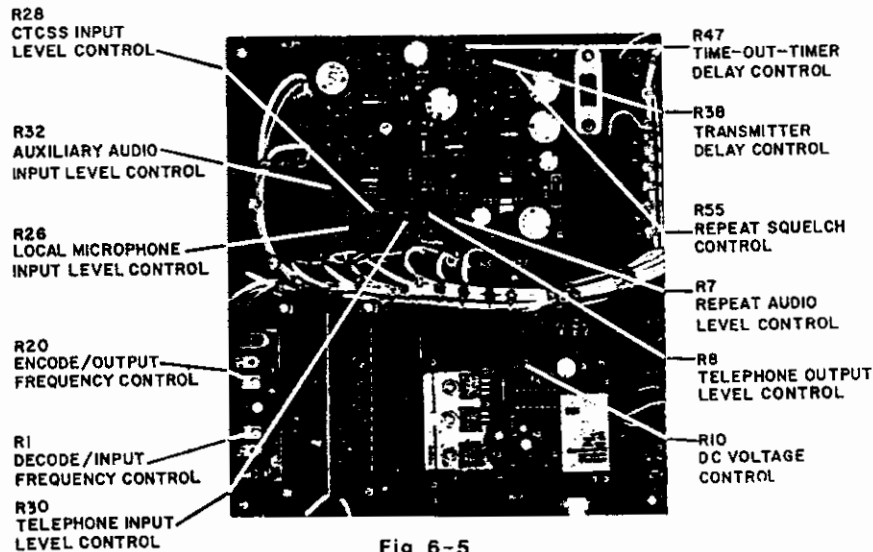

Fig 6-5
- e. Adjust R38 on the repeater control board (Fig. 6-5) as necessary. (Delay time adjustable from 20 mS to 4 seconds.)